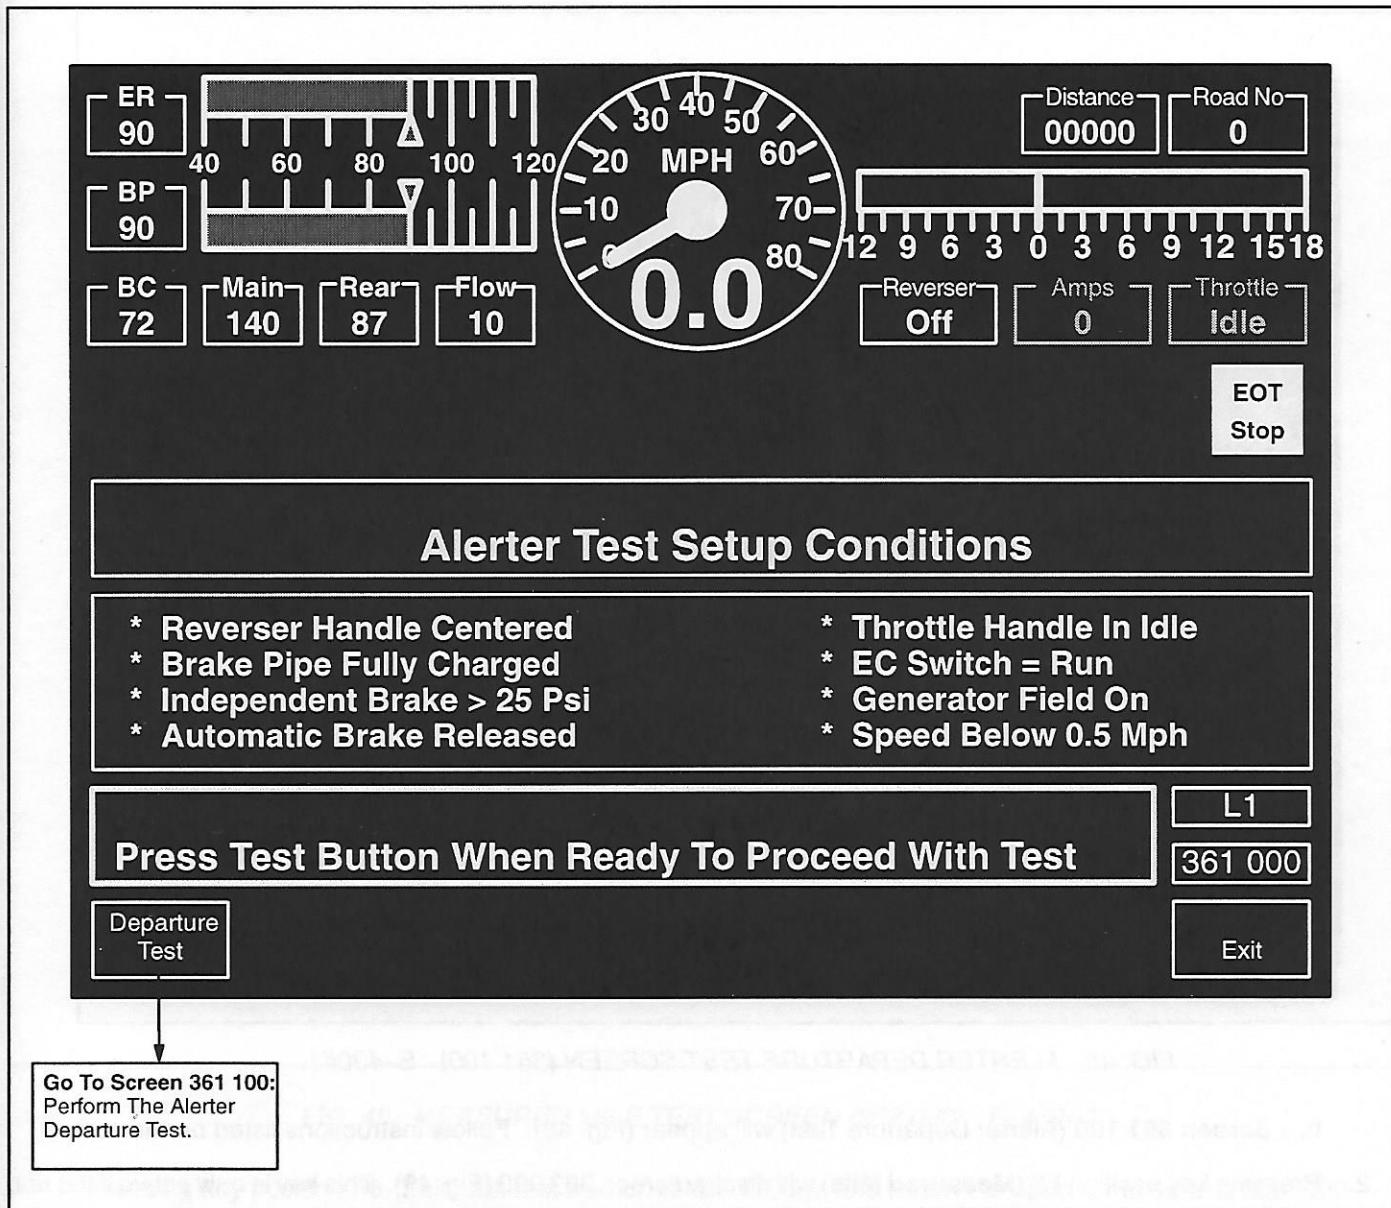

FIG. 47. ALERTER TEST SETUP SCREEN (361 000). E-43060.
1. Pressing key position F1 (**Alerter Resets**) will display screen 361 000 (Fig. 47). This key is only active if the unit speed is less than 0.5 mph.